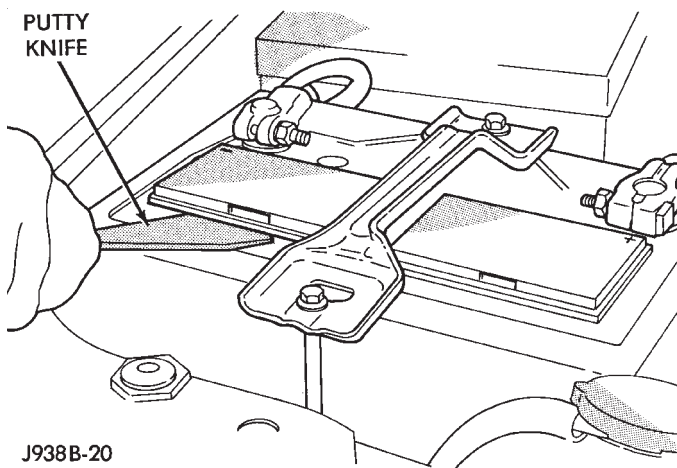

Fig. 18 Removing Cell Caps - Typical
(7) Check the electrolyte level in the battery. Use a putty knife or another suitable wide flat-bladed tool to pry the cell caps off (Fig. 18). Do not use a screwdriver. Add distilled water to each cell until the liquid reaches the bottom of the vent well. **DO NOT OVERFILL.**